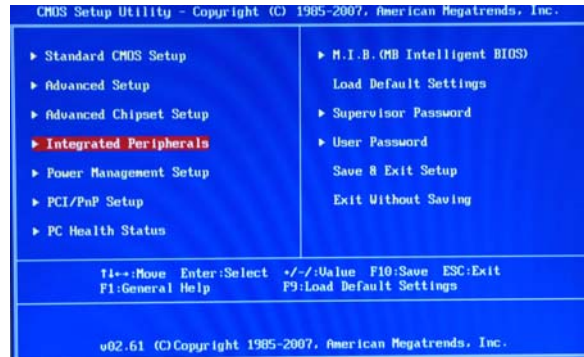

Figure 1.4 BIOS CMOS Setup Utility Main Screen
- 2 Use the arrow keys to select Integrated Peripherals (see Figure 1.4), then press Enter.